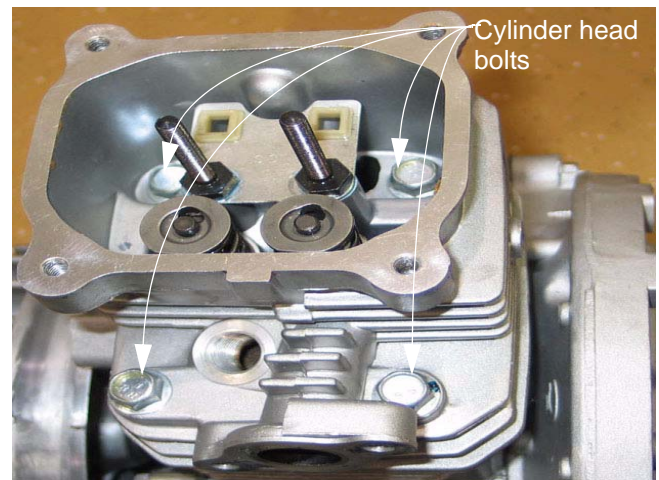

Figure 12.9
- 12.9. Remove the cylinder head bolts using a 14mm wrench. See Figure 12.9.